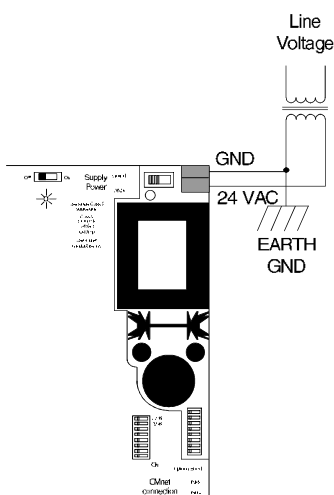

Figure 4: SiteGate-232 module powered by transformer with Earth Ground
4. If you are using an internally grounded transformer, terminate the Earth Ground wire to the Gnd screw terminal as indicated in Figure 4.